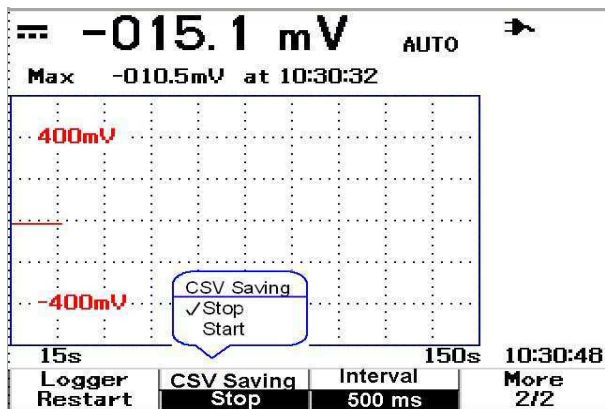

Figure 5-3 Enabling the CSV saving function
- 3 To enable the CSV saving function, press F2 to toggle between start and stop options (refer to Figure 5-3 below). You can save up to 500 kilobytes of data.